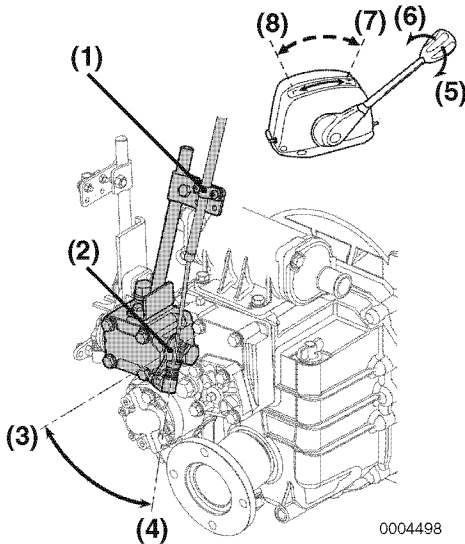

Figure 3
2. Reduce the speed by moving the trolling handle from high speed (H) (Figure 3, (4)) to low speed (L) (Figure 3, (3)). Adjust the speed to the desired rate and secure the trolling handle in place.
3. Before returning to normal operation, be sure to put the trolling handle in high-speed (H) position.